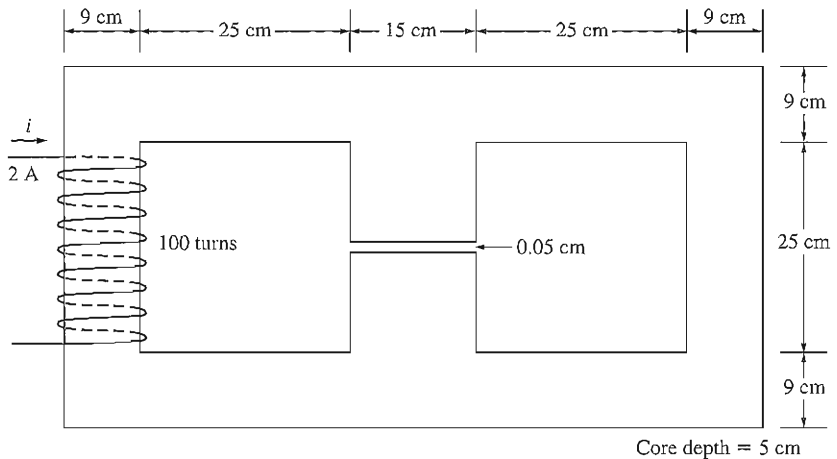

FIGURE P1-5
- 1-8. A core with three legs is shown in Figure P1-5. Its depth is 5 cm , and there are 100 turns on the leftmost leg. The relative permeability of the core can be assumed to be 2000 and constant. What flux exists in each of the three legs of the core? What is the flux density in each of the legs? Assume a 5 percent increase in the effective area of the air gap due to fringing effects.